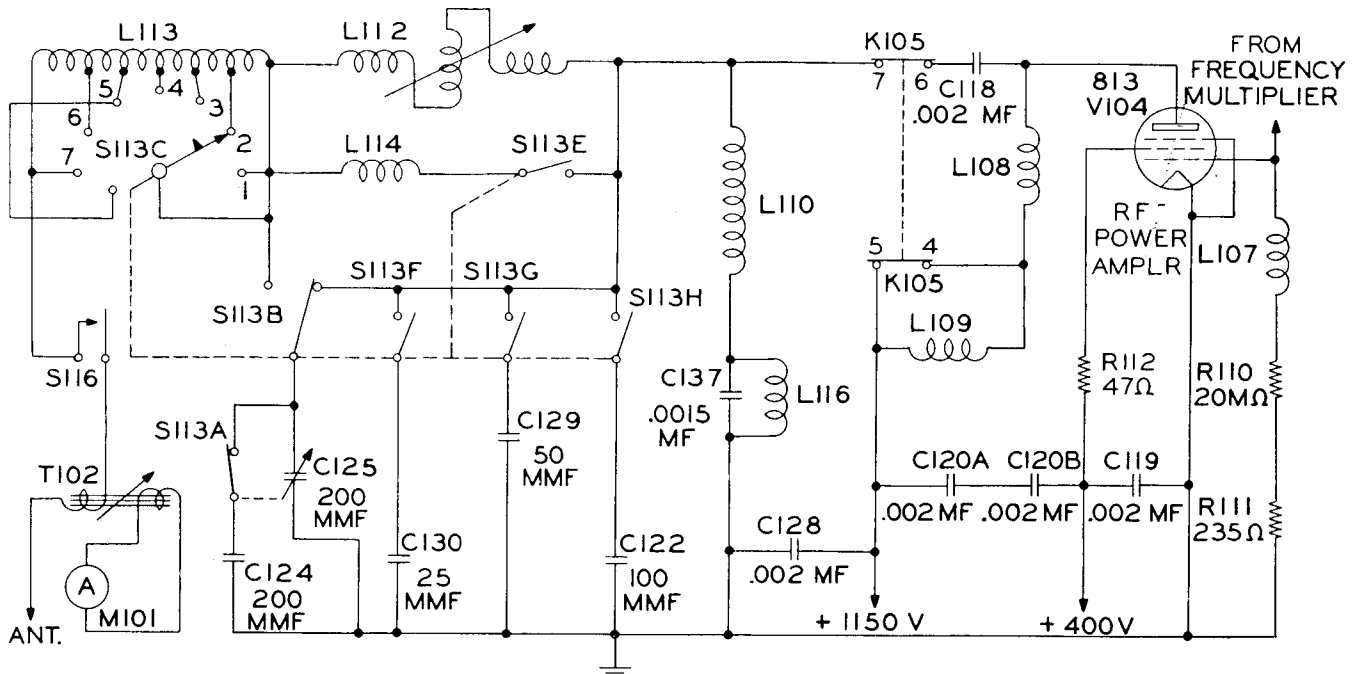

Figure 4-16. High Frequency Power Amplifier Circuit
*d. POWER AMPLIFIER AND OUTPUT NETWORK.* (figure 4-16.)
(1) The power amplifier stage employs a Type 813 beam pentode tube operating as a straight amplifier at all frequencies. When operating in the frequency range 200 kc to 1500 kc, the output of the LF oscillator is capacitively coupled to the grid of the power amplifier. When the transmitter operates in the frequency range 2.0 MC to 6.0 MC the output of the first frequency multiplier tube, V102, is coupled to the grid of the power amplifier through first multiplier range switch S102 contacts and capacitor C116. When operating in the frequency range 6.0 MC to 18.1 MC the output of the second frequency multiplier tube, V103, is coupled to the grid of the final amplifier tube, V104, through second multiplier range switch contacts S103 and capacitor C116. When LF operation has been selected output circuit selecting relay K105 connects the plate circuit of the final amplifier tube, V104, to external loading coil terminal J117. With output circuit selecting relay K105 in the normal position the plate circuit of final amplifier tube V104 is connected to the output